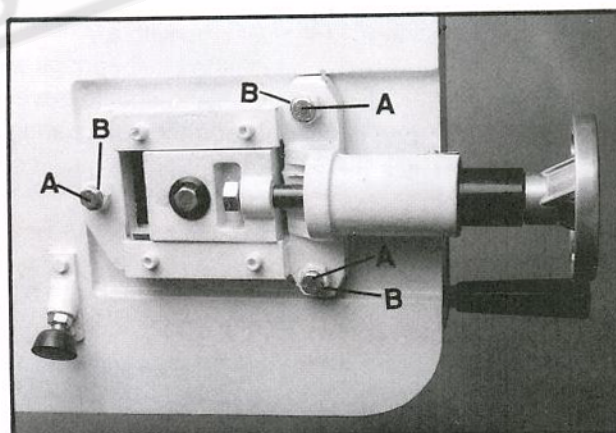

Fig. 8
4. Loosen the three bolts (A, Fig. 8) located on the top of the tracking nuts.
5. Tracking adjustment is accomplished by either loosening or tightening three adjusting nuts (B, Fig. 8).
7. Tighten locking bolts (A, Fig. 8) once proper tracking is completed.